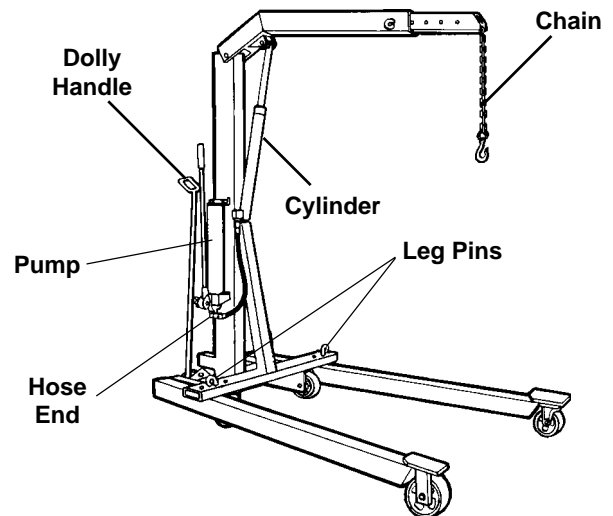

Figure 2
5. Arrange the pump on the crane mast with the hose end on the bottom. Thread four 1/4 dia. x 1" lg. cap screws through the pump base into the mast. See Figure 2.